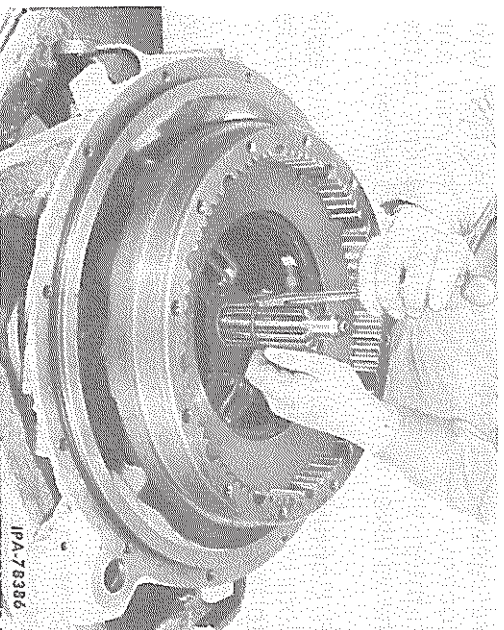

FIG. 27 – Installing the Splined Center and Disc Assembly Positioning Snap Ring
23. Lower the clutch assembly until the bushings on the bearing carrier pins engage with the fingers of the release fork. At this time, thread the clutch brake disc (19, Fig. 14) into the bearing carrier. Lower the clutch assembly into the housing and remove the hoist. Install the snap ring that positions the splined center and disc assembly on the shaft (Fig. 27).